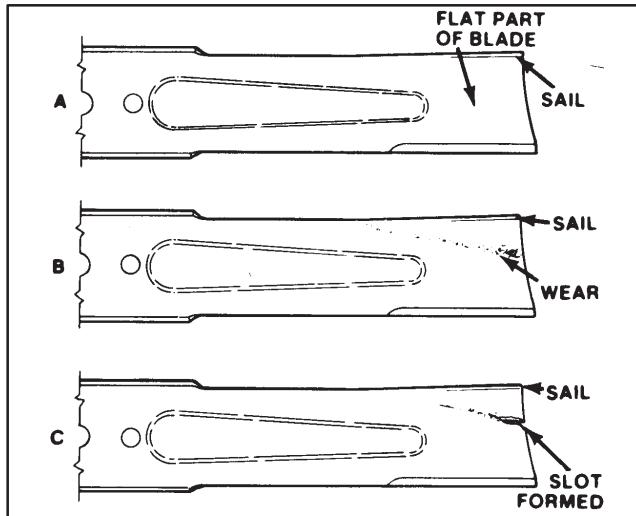

Figure 37
If blade is allowed to wear, a slot will form between the sail and flat part of the blade (Fig. 37-C). Eventually a piece of the blade may break off and be thrown from under the housing, possibly resulting in serious injury to yourself or bystander.
2. Examine cutting ends of the blade carefully, especially where the flat and curved parts of the blade meet (Fig. 37-A). Since sand and abrasive material can wear away the metal that connects the flat and curved parts of the blade, check the blade before using the machine. If wear is noticed (Fig. 37-B), replace the blade: refer to Removing Cutter Blade.